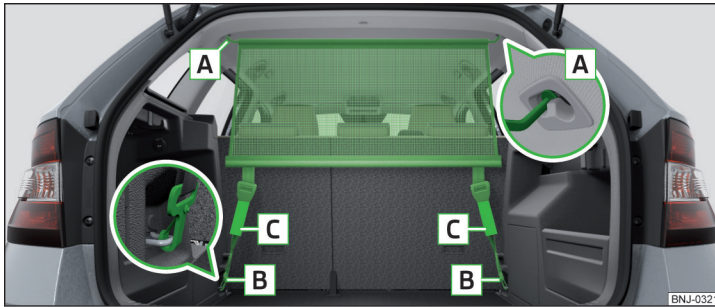

Fig. 110 Net partition behind the rear seats
- › First insert the rod into the mount **B** » Fig. 110 on one side and push it forwards. Insert the transverse rod into the mount **C** on the other side of the vehicle in the same way.